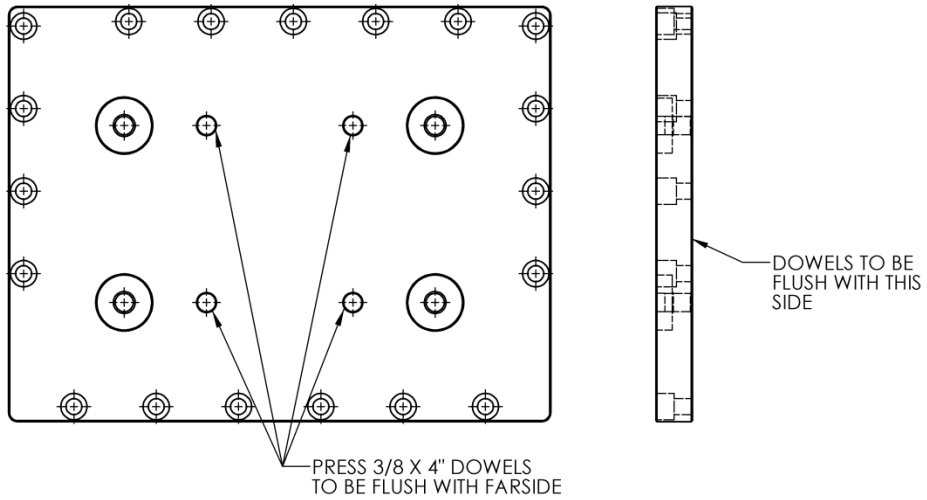

Figure 21
1. Apply dowel pins as shown Figure 21. Dowels must be inserted straight, they will extend out by 3 inches.